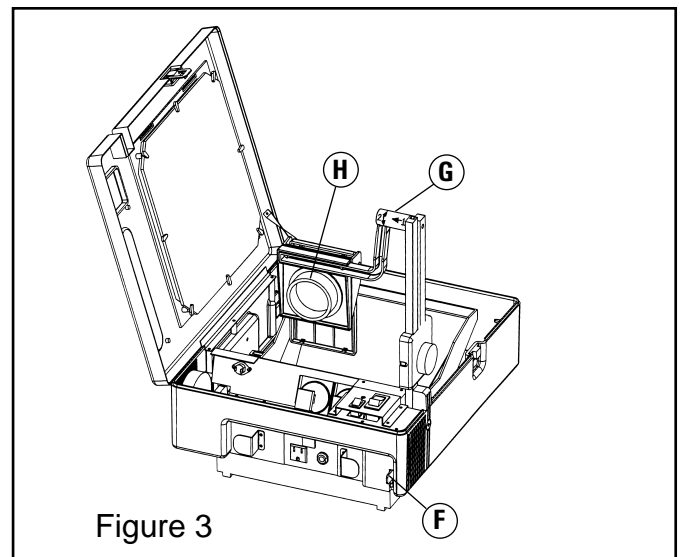

Figure 3
6. Rotate the post hold down latch (D) sideways to release the folded post assembly. Grasp the top of the folded post (E) (near the latch) and pull upward. This will rotate the post, horizontal arm, and projection head assembly to the upright position. The bottom mirror will lower into position as the post is raised. Continue rotating the post assembly upward until it locks into the fully upright position (see figure 3).